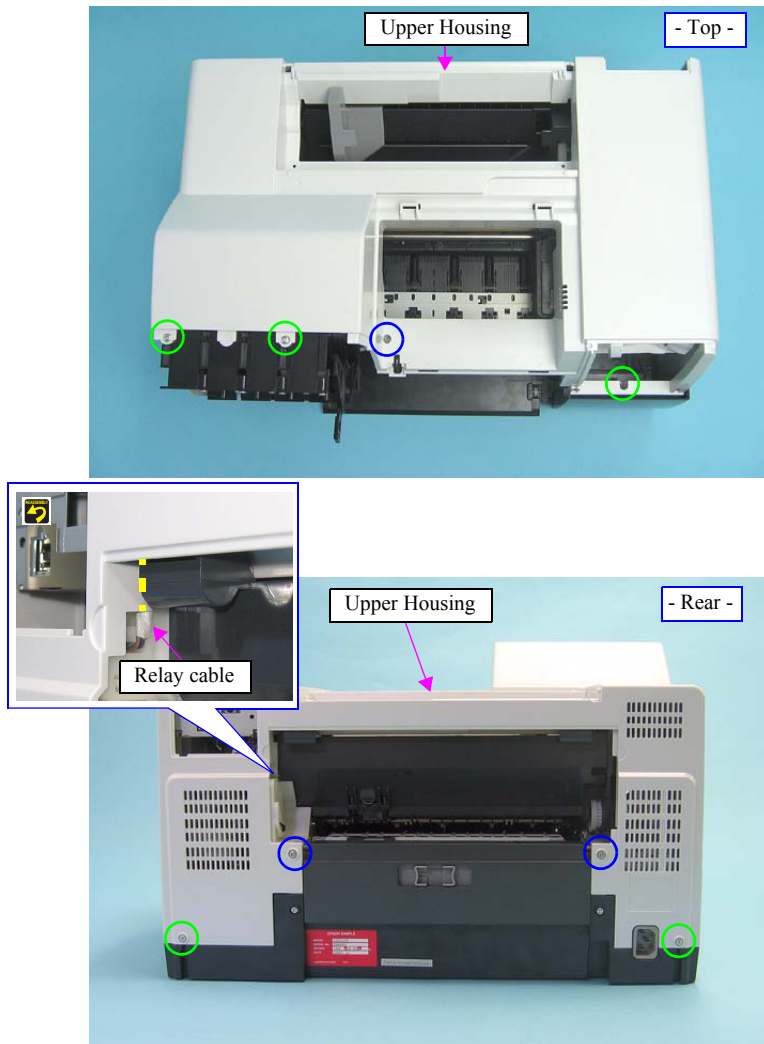

Figure 4-43. Removing the Upper Housing
- When installing the Upper Housing, route the relay cable within the yellow dotted line area of the Upper Housing as shown in Figure.4-43.